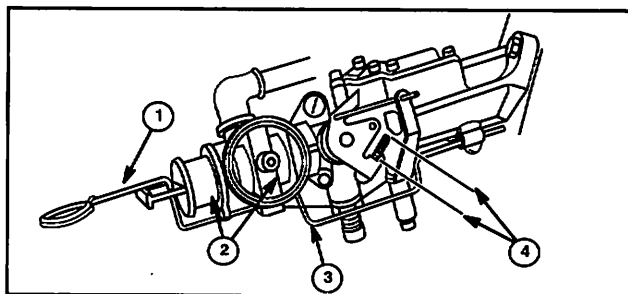

Fig. 60
Pull lever (1) to full choke position (2). The distance between throttle stamping and throttle screw stop (4) must be 9/16" (14.27 mm). To adjust, bend linkage where shown (3), Fig. 60.